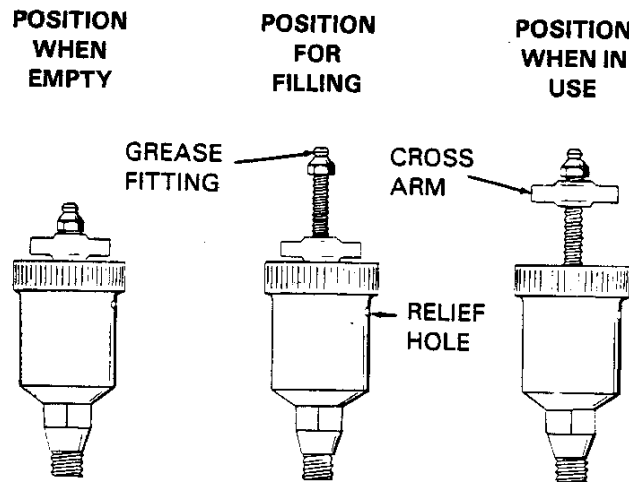

Figure 4. Automatic Lubricating Grease Cup
Before starting the pump, fill the grease cup (10) through the grease fitting with a good grade of No.2 pressure gun grease until grease escapes from the relief hole. Turn the grease cup arm counterclockwise until it is at the top of the stem; this will release the spring to apply grease to the seal (see Figure 4).